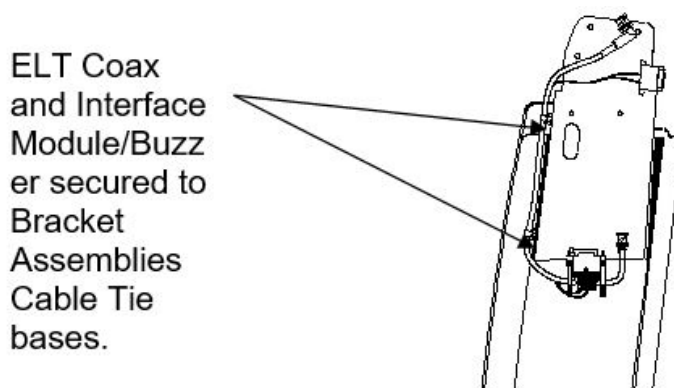

Figure 4. Installation of coax, interface module, and buzzer.
- 20. Route and secure the ELT coax assembly and interface module/buzzer on to the baggage/bracket tray's cable tie bases. Refer to Figure 4.